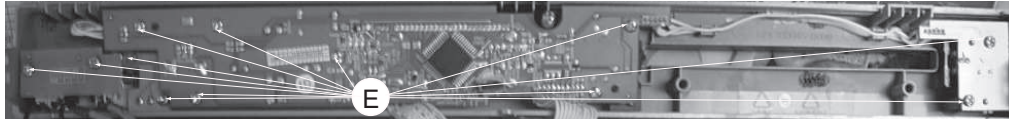

Figure 6
- 1) Loosen 12 screws "E" on the top of control board as shown in figure 6